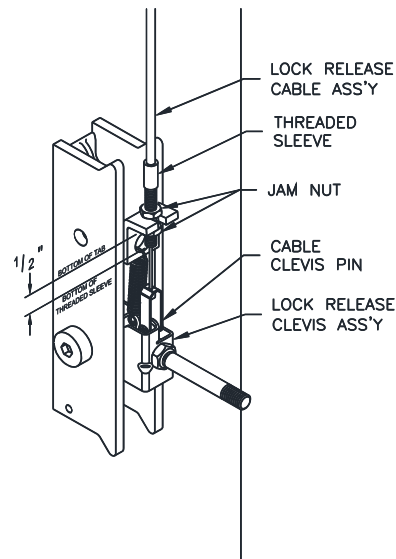

Fig. 17 – Power Column Lock Release Assembly
- 41) Attach mechanical lock release cable assembly to power column lock pawl using the 3/16" diameter x 1/2" long pin and (2) "C" clip retainers found in hardware, **Fig. 17**.
- 42) Insert threaded sleeve portion of cable assembly in slot located on tab above locking pawl, **Fig. 17**. One jam nut should be located on each side of tab. Position threaded sleeve with 1/2" of thread below tab as indicated in **Fig. 17** and tighten jam nuts.
- 46) Repeat **procedures 40 thru 44** with second lock release cable routing from top of idler column lock to bottom of power column lock, (**Figs. 17 & 18**).